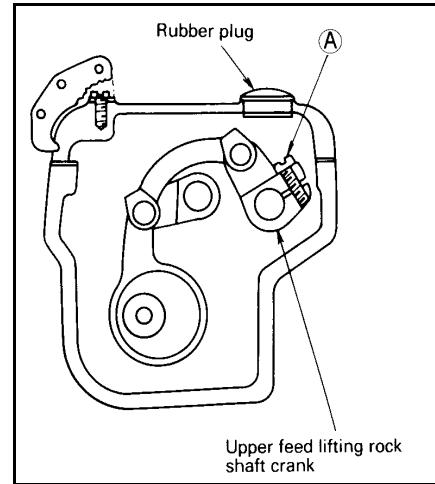

Fig.26
- 2) To change the balance of the alternating movements between the walking foot and presser foot (Fig.26):